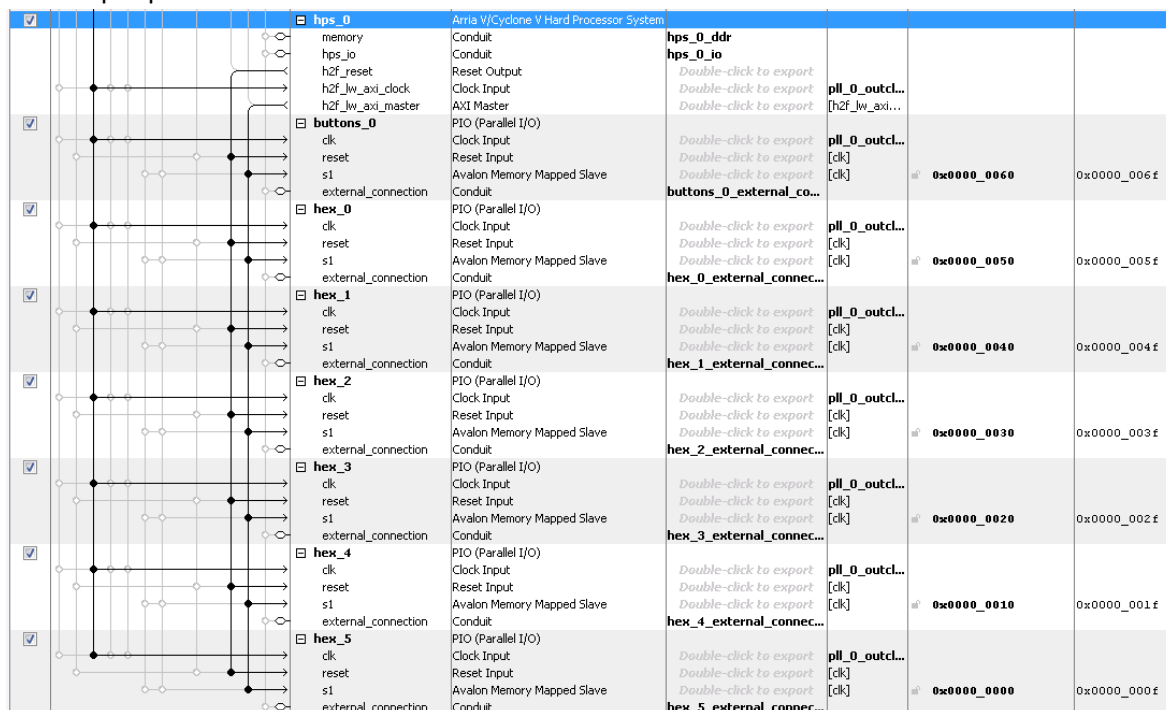

Figure 7-10. Adding Buttons and 7-segment Displays to the Lightweight HPS-to-FPGA Bridge
25. Connect the system as shown in Figure 7-10 below (we don't show the full system to make figures hold on one page). Notice that we use “hps_0.h2f_reset” as the reset signal for the components